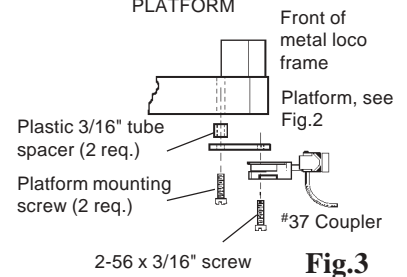

Fig.3
10. Mount the platform to the metal chassis with spacers between chassis and platform and secure using two screws. See Fig. 3.
12. Mount coupler assembly by inserting from front through pilot opening, align on centerline and secure to bracket with 2-56 x 3/16" screw. See Fig. 3. A